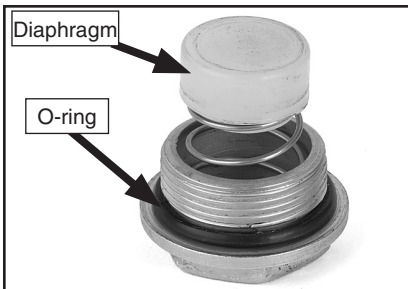

Figure 18. Check valve diaphragm and spring.
3. Inspect the O-ring and diaphragm (**Figure 18**) for damage and dirt.